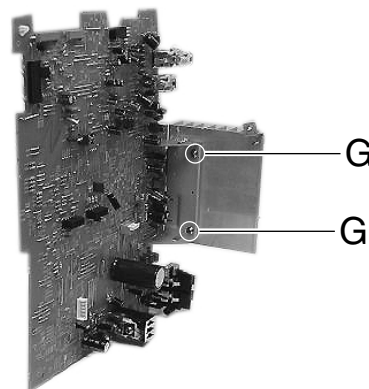

Fig. 16
■ Removing the heat sink (See Fig. 16)